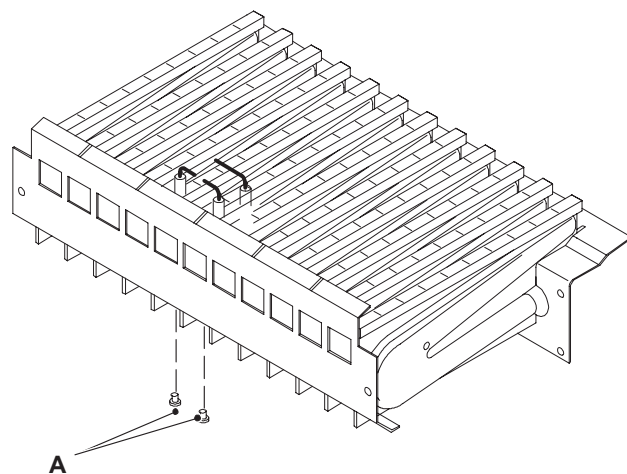

Figure 15.3
- 5 Unscrew the screws A (Figure 15.3) which hold the electrodes to the burner.